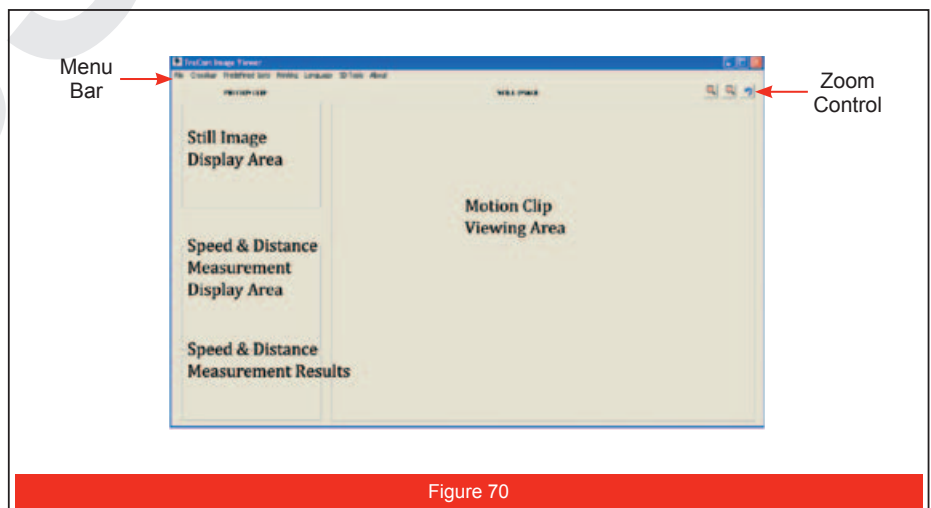

Figure 70
2. Figure 70 (A) shows the first Calibration Screen, it will prompt you to tap in the black box on the upper left of the screen.
3. Figure 70 (B) shows the second Calibration Screen. Tap the target black box in the lower right corner of the screen.
4. Figure 70 (C) shows the third Calibration Screen. Tap the target black box in centre of the screen.
After you start the program, the TruCAM Image Viewer will be displayed. It should look like Figure 70.